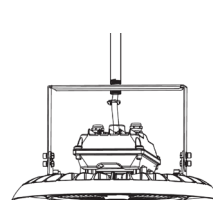

Fig. 11
4. After installation, connect the wire of the fixture to the mains according to local code. Ensure the connections are stable. By adjusting the bracket's screws, users can adjust 50° to the left or right vertically. (Fig. 11)